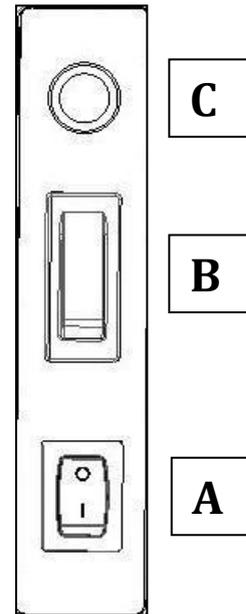

Fig. 6
- In order to activate the mixing auger it is necessary to start up the switch A (fig.6).
- In order to activate the warming element it is necessary to start up the switch B, considering that if the mixing auger is not working (switch A not in I position) the warming element does not work (fig.6).
NOTE: when the heating component the red light C is on (fig.6); the machine warms up and keeps the product at the right temperature, trough ON/OFF cycles, therefore during the normal functioning the light C will turn ON and OFF to show when the warming element is ON/OFF.